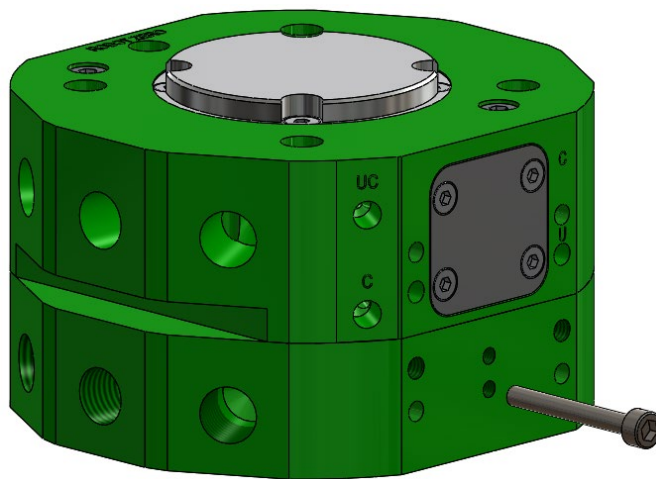

Figure 7.4-1. Manual Uncouple Feature
4. Insert a M3x25mm long socket head cap screw in the hole located in the middle of the Tool Side Housing as shown in Figure 7.4-1. This requires any tool side modules to be removed.